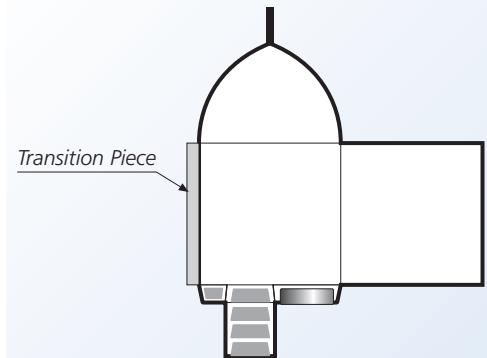

Figure 1
- Place a step ladder alongside the Passenger Side (PS) of the camper;
- Align the **Transition Piece** as shown in *Fig. 1* - fasten in place to the **Canvas Top** using the Velcro edging;